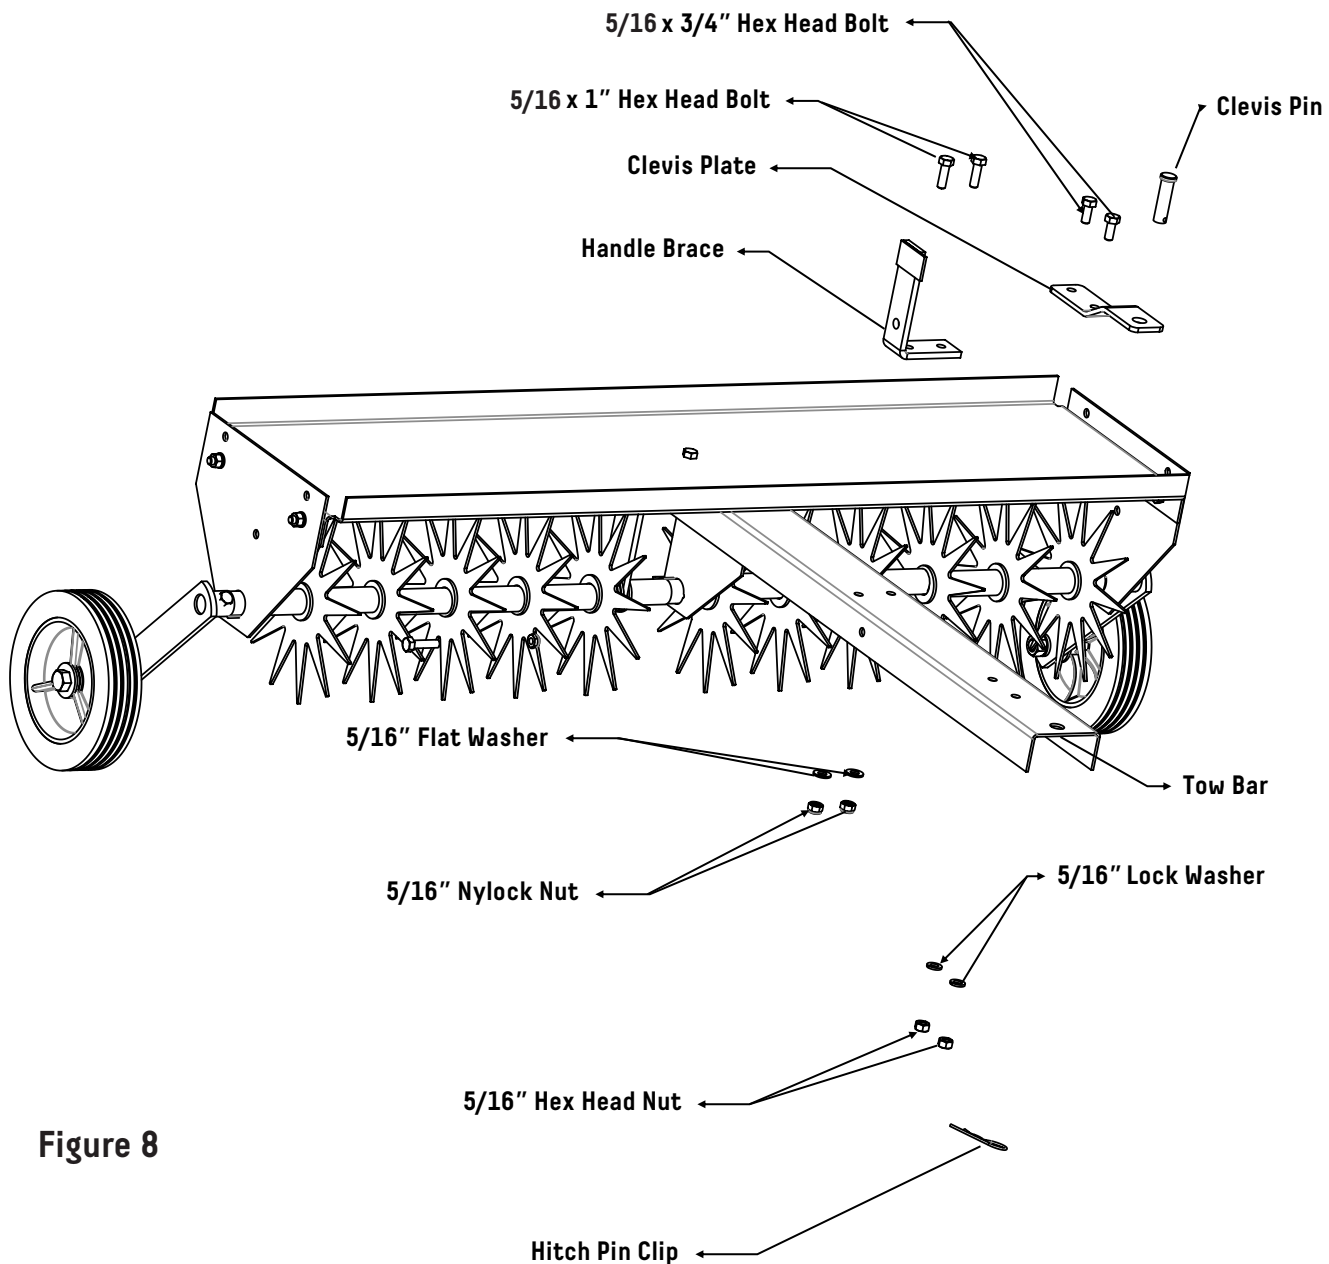

Figure 8
8. Align the two holes of the Tow Bar and Handle Brace as shown. Insert a 5/16 x 1" Hex Head Bolt into one of the holes in the Handle Brace and then through the corresponding hole in the Tow Bar. Place a 5/16" Flat Washer onto the bolt, and secure with a 5/16" Nylock Nut. Repeat process on the next hole. Insert a 5/16 x 3/4" Hex Head Bolt into one of the two smaller holes on the Clevis Plate and then into the corresponding hole in the Tow Bar. Place a 5/16" Lock Washer onto the bolt and secure with a 5/16" Hex Head Nut. Repeat process on the next hole. Insert the Clevis Pin through the larger front hole of the Clevis Plate and through the hole in the Tow Bar and secure with the Hitch Pin Clip. Screw the 5/16" Nylock Jam Nut onto the 5/16 x 1 1/4 Hex Head Bolt, leaving enough room for the Lever Link to fit between the head and the nut. Insert the bolt into the hole in the side of the Tow Bar and secure with a 5/16" Nylock Nut. See Figure 8.